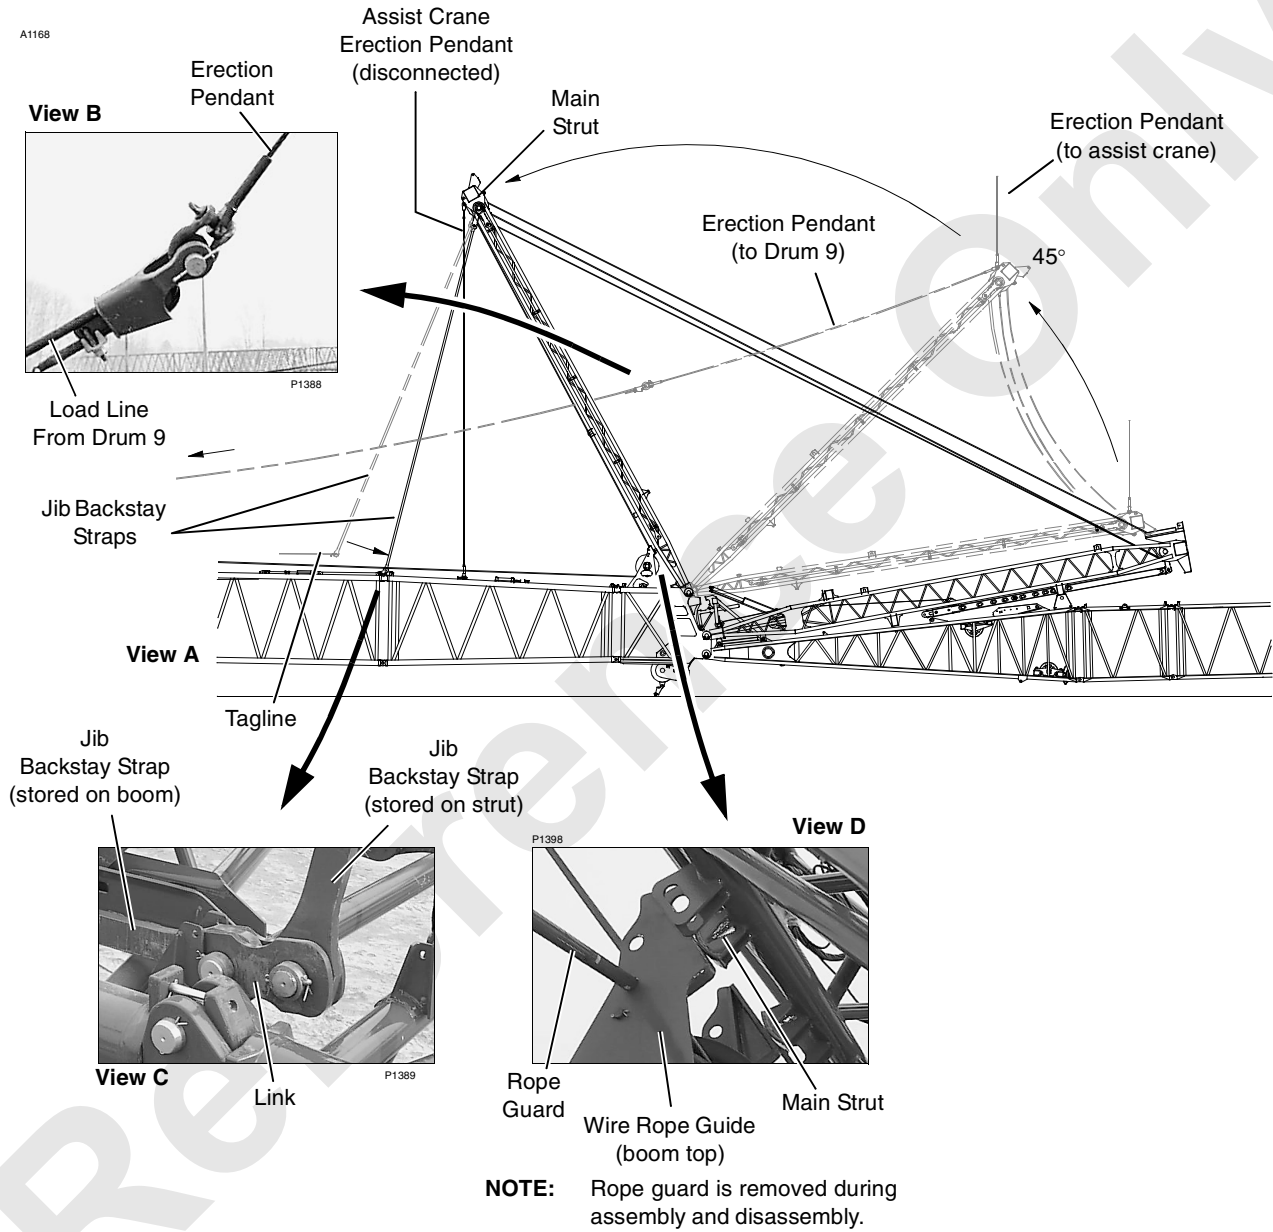

FIGURE 4-7
5. Connect other pendant to load line from Drum 9 (Figure 4-7, View B).
See Figure 4-7 for following procedure.
See Figure 4-7, View C for following procedure, unless otherwise noted.
6. Lower assist crane load block so erection pendant hangs suspended from top of main strut (Figure 4-7, View A).
7. Pay out crane load line (Drum 9) so erection pendant hangs suspended from top of main strut (Figure 4-7, View A).